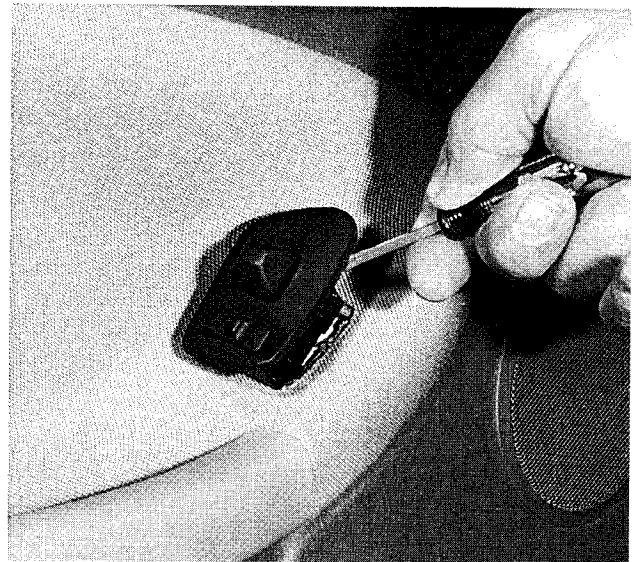

Fig. 5. Pry outside mirror switch from door armrest.
2. Carefully pry out mirror adjustment switch and disconnect harness connector from switch. Fig. 5.